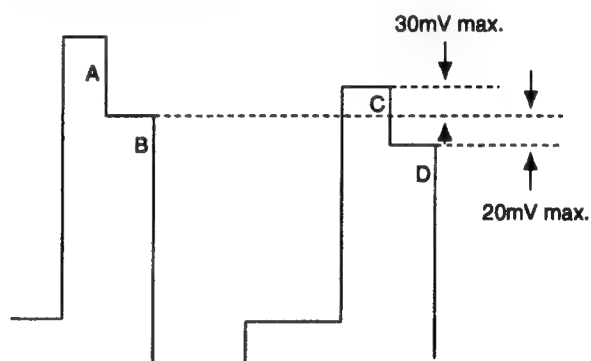

Fig. 5-13
3. Connect the probe of an oscilloscope to IC404 ⑩ PIN or TP401.
5. Adjust **[R-Y LEVEL COMPONENT]** so that the peaks of waveforms will be flush with each other as shown in Fig.5-13.